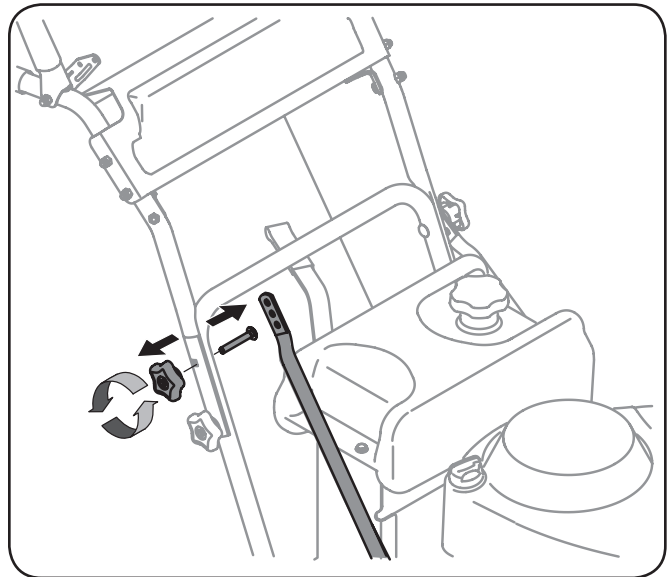

Figure 6-7
- Remove the upper star knob and carriage screw on the right side of the handle and the left side of the handle. See Fig. 6-7.